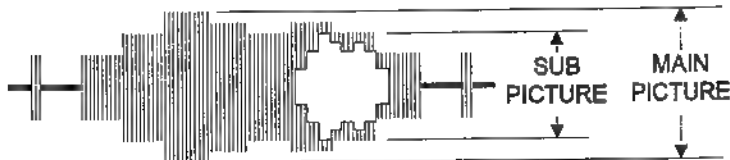

Fig. 7
8. Set the adjustment data so that the chroma signal amplitude of sub picture is $90 \pm 5\%$ of main picture using the "ADJUST" button (Fig.7).